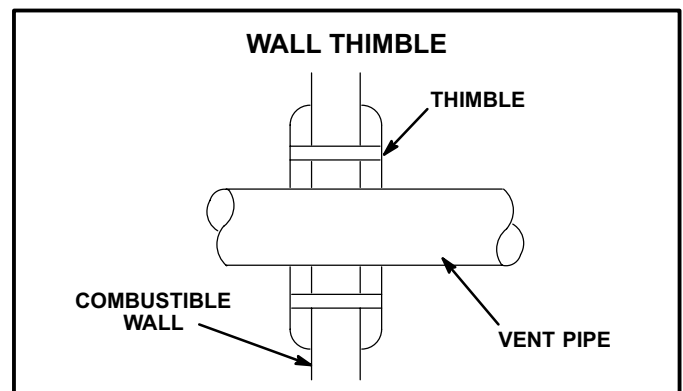

FIGURE 5
- 8 - The vent may pass through a wall where provisions have been made for a thimble as specified in the Standards of the National Board of Fire Underwriters. See figure 5.